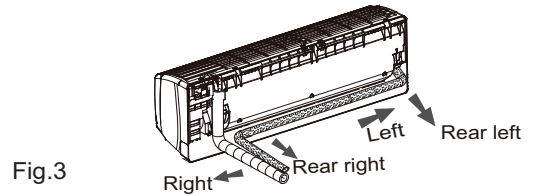

Fig.3
- (1) The pipe can be led out in the direction of right, rear right, left or rear left.(As show in Fig.3)